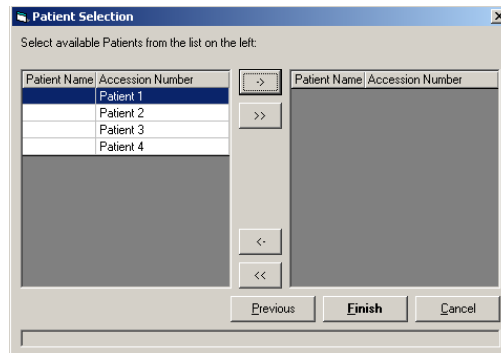

Figure 5-59. Patient Selection Dialog Box
3. Enter the information (in this example, a patient report) and click **Next**. Another information dialog box opens. Enter specific information for the type of report the system is compiling. Figure 5-59 shows a Patient Selection example.